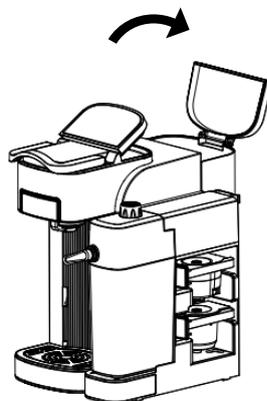

Figure 2
2. Directly open the water tank cover to add water without removing the water tank from the main unit (see Figure 2).